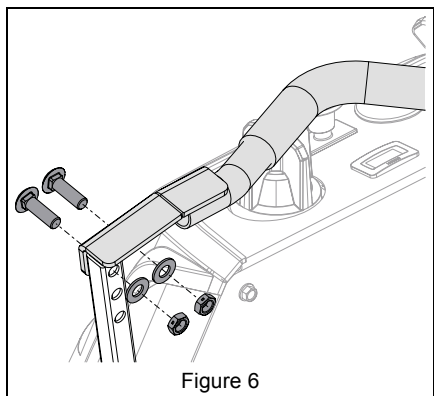

Figure 6
1. Remove hardware securing steering levers to lower control arms. See Figure 6.